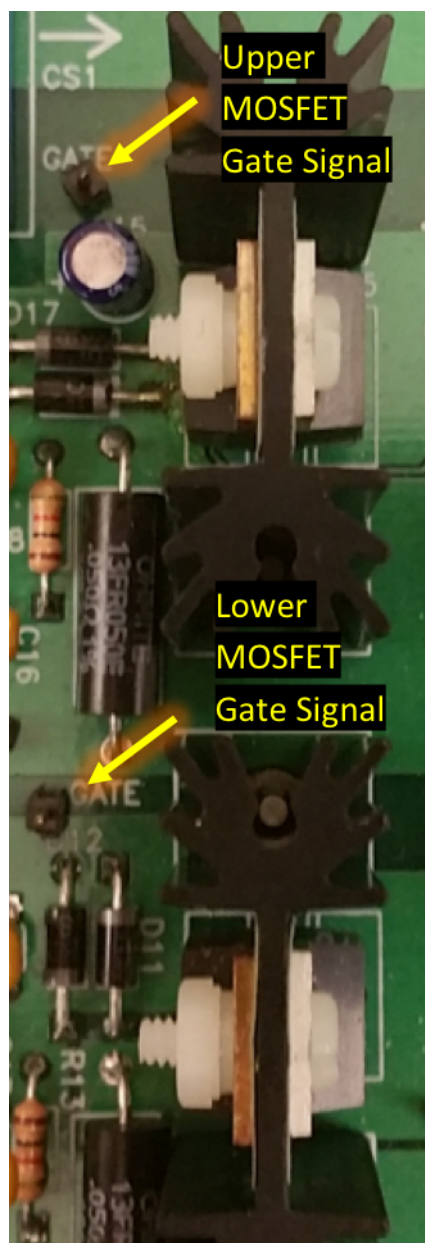

Figure 11: Gate signal pins.
1. To ensure that the upper MOSFET is switching, remove the probe's measuring clip and hook it to the "Gate" pin on the top left of the upper MOSFET shown in Fig. 11. You should observe a similar waveform to that you saw when the PWM pin was being probed.
2. To ensure that the lower MOSFET is not switching, remove the probe's measuring clip from the upper "Gate" pin and place it on the lower "Gate" pin shown in Fig. 11. You should observe zero voltage.